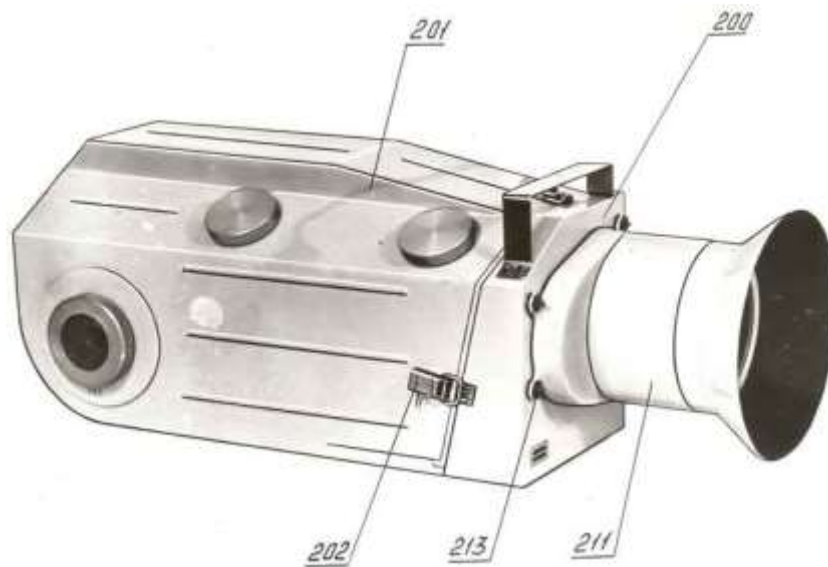
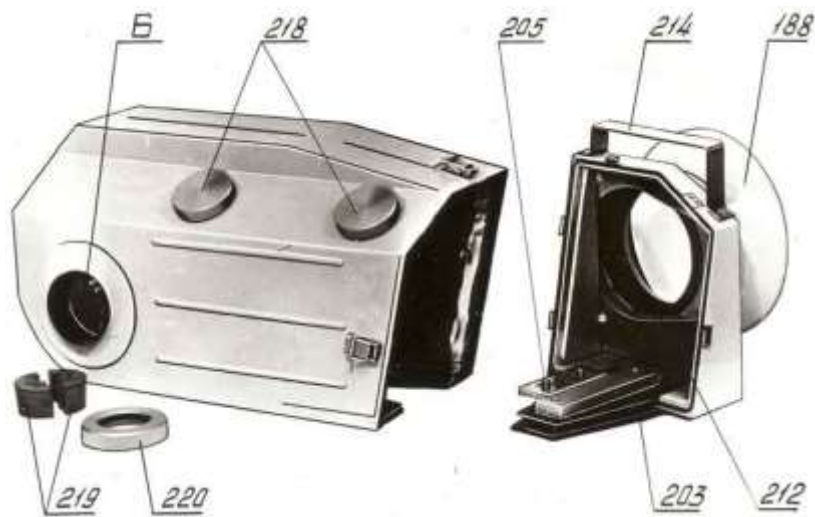
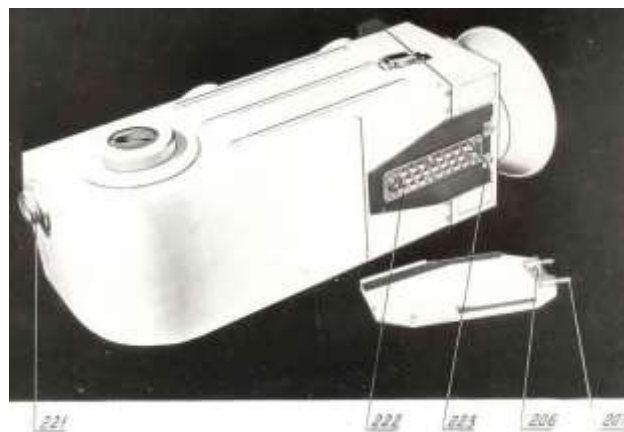

Figure 29. Assembled box
Figure 30. The box before inserting the camera
Figure 31. Bottom part of the box
The box consists of the body (200) and housing (201) attached to each other by means of the locks (202) using a rubber padding. There is base (203) (Figure 30) with screws (205) for the camera fastening inside the box. Dove-tail guiders of the base (203) hold the support (206) (Figure 31) secured by means of two screws (207).
Body of the box is load-carrying part with the cap (211) for a lens. Front side of the cap has a coated glass. There is cellular ring (212) (Figure 30) with silica gel inside the cap. The cap is fastened to the body by means of four screws (213) (Figure 29). There is carrying handle on the box.
The housing has two heater flanges covered with the caps (218) (Figure 30) and window “B” with two inserts (219) (providing a containment) and the nut (220).
Rear side of the housing has the cup (221) (Figure 31) with silica gel covered with glass for observing the silica gel color.
The base (203) (Figure 30) is intermediate part between the camera and tripod. It is also linking part between the box body and housing. The base holds plate (222) (Figure 31) with tripod nuts, and two stoppers (223) limiting screws (207) of the support (206).